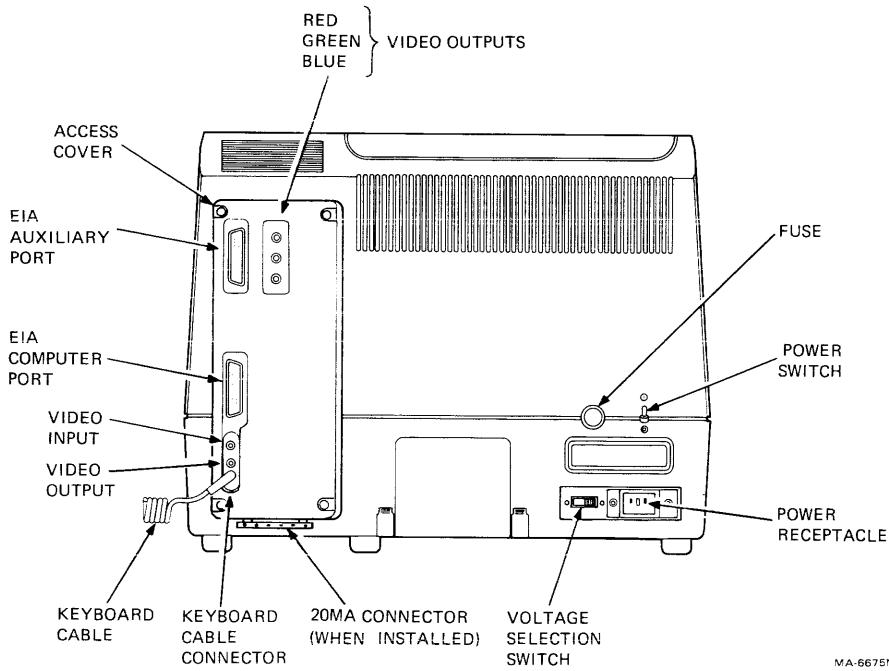

Figure 1-2 Monitor Controls and Connector Locations
The VT125 terminal has two controls on the rear panel. The controls are the ac voltage selection switch and the ac power ON/OFF switch (Figure 1-2).
1. Turn the power switch to the ON position (refer to Figure 1-2 for the switch location). The terminal automatically runs the power-up self-test. The test gives the following indications: